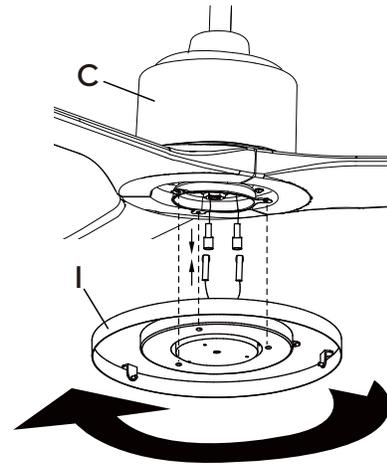

Figure 13
- Connect the blue wire from the fan to the blue wire from the light kit and the white wire from the fan to the white wire from the light kit by securely inserting the connectors together. (Figure 13)
- Carefully tuck all wires into the switch housing, and align the 3 holes on the light kit (I) to the three screws pre-installed in the switch housing. (Figure 13)